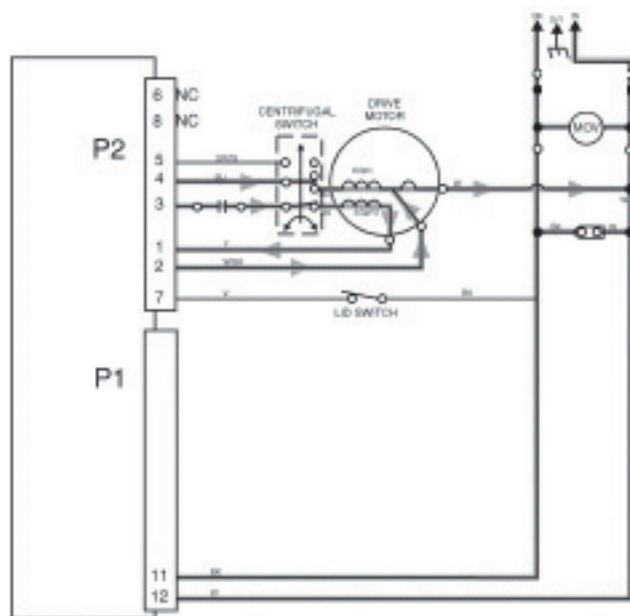

Fig. 3-5
5. Drain is initiated by reversing the current flow through the motor start winding. Because the start winding of the drive motor is energized in the reverse direction, the drive motor runs in reverse direction and operates the water pump. (Fig. 3-5)